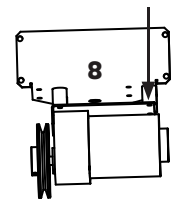

Fig 2B Motor - mounted on bracket
- 8 Rotate motor 180° sideways. Use the rearmost set of holes (Fig. 2B)